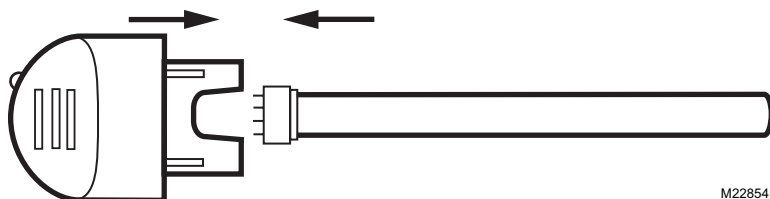

Fig. 11. Replace lamp glass in SnapLamp™ handle.
- Insert the new lamp glass into the SnapLamp™ handle by aligning the key and pushing straight together. See Fig. 11.